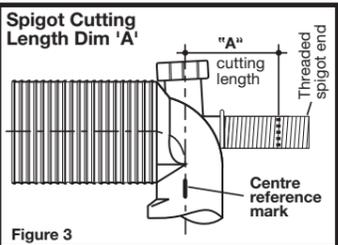

Figure 3
- 3- Determine and mark the cutting length of the threaded spigot by measuring the set-out dimension "A" from the centre reference mark on the Uniconnector. Cut threaded spigot to size, as detailed in Fig. 3.